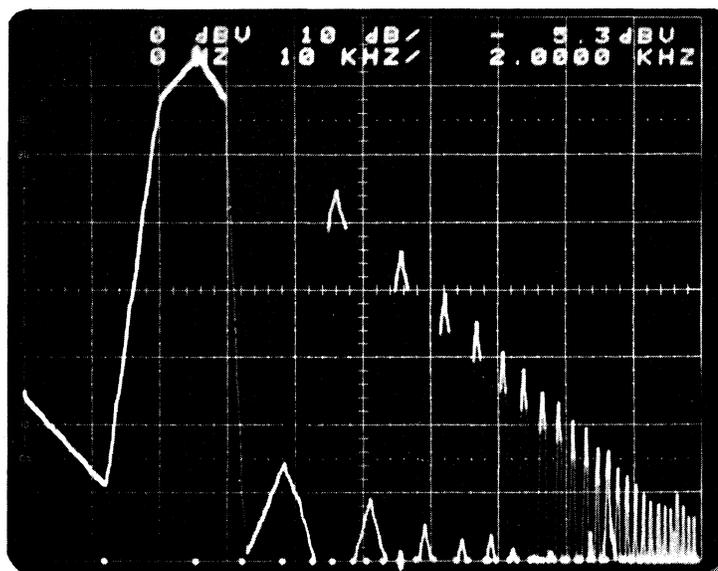

Fig. 3-5 Spectrum of Test Signal when Instrument is Operating Properly
- e. Next, set DISPLAY-FREQ SCALE to LOG. Display will look similar to Fig. 3-5. The rolloff of the spectral lines will appear to decay linearly down to about -70 dB wrt full scale. The display will reach -70 dB V near 62 KHz. Below -70 dB V, the lines do not necessarily fall within the straight line formed by the spectral lines above it.